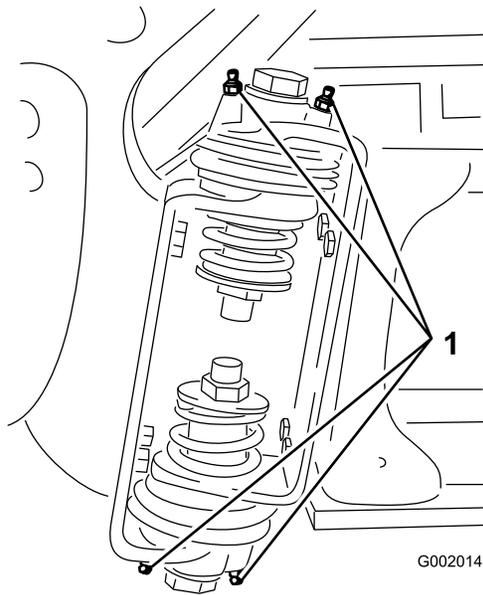

Figure 23
2. Pump grease into the bearing or bushing at each fitting Figure 23.